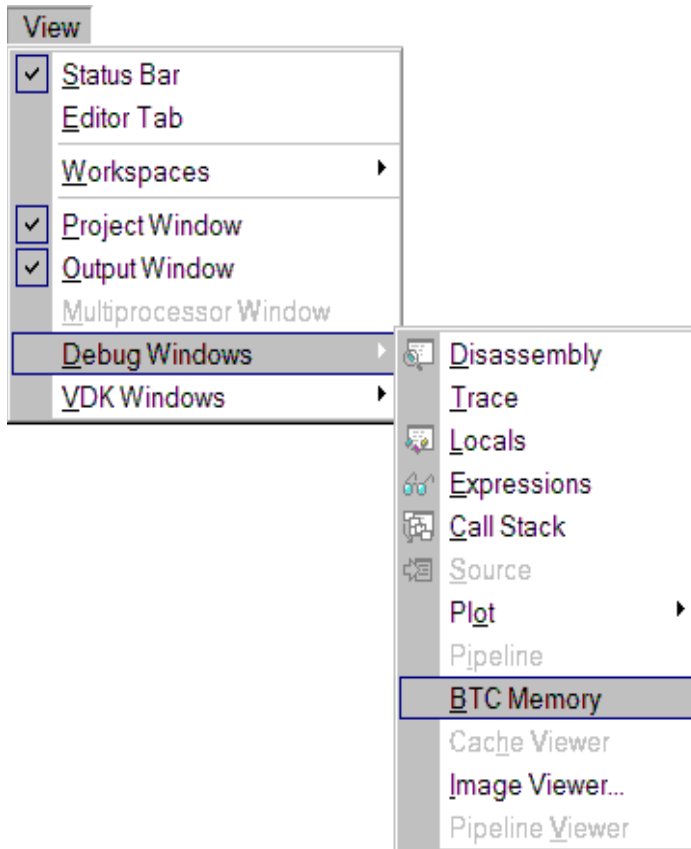

Figure 3-17. BTC Memory Menu Option
1. From the **View** menu, choose **Debug Windows** and **BTC Memory** as shown in Figure 3-17.